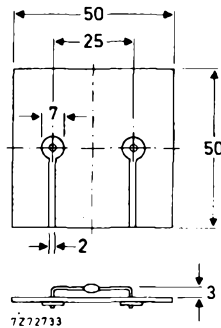

Fig. 2 Mounted on a printed-circuit board.
| $T_{amb} = 55\text{ }^\circ\text{C}$ ; Fig. 2   | $I_{F(AV)}$ max. |              | 1,25 | A                |
2. Thermal resistance from junction to ambient when mounted on a 1,5 mm thick epoxy-glass printed-circuit board; Cu-thickness  $\geq 40\text{ }\mu\text{m}$ ; Fig. 2